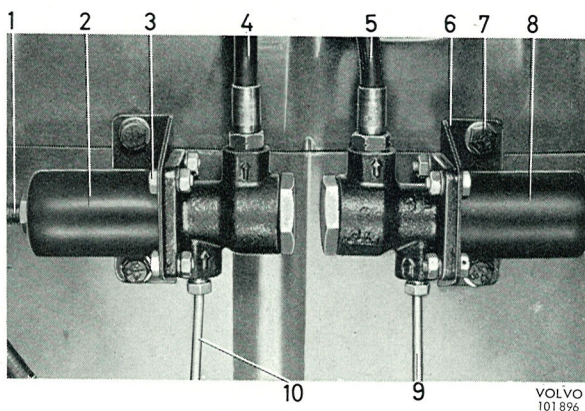
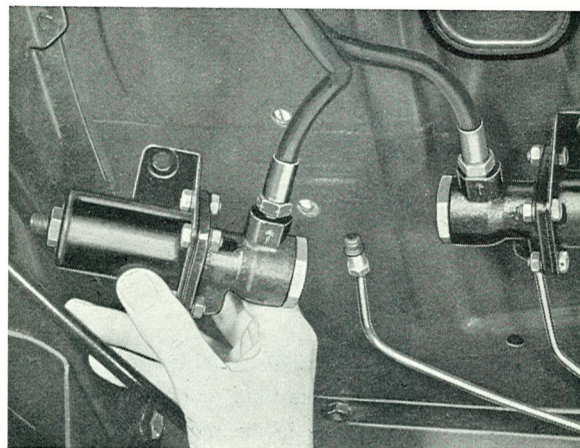

Fig. 5-55. The brake valves fitted
Fig. 5-56. Removing the brake valve
Unscrew and plug the connection (10, Fig. 5-55) of the brake pipe. Loosen the brake hose (4) a maximum 1/4 turn at the valve. Remove the attaching screws and unscrew the valve from the brake hose, see Fig. 5-56.
Screw the brake valve onto the brake hose, compare Fig. 5-56. Place the valve in position and check that there is no tension in the hose. Fit the attaching screws and connect up the brake pipe. Tighten up the connection. Vent the brake system.